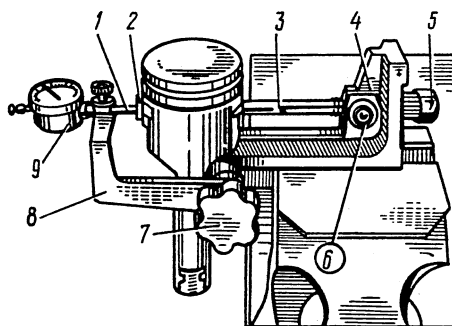

Fig.2-33. Assembled Piston-Pin-Connecting-Rod Group Installed on Tester A.95615 for Pin Pressing-Out Test:
- clamp tester base 4 (Fig. 2-33) in a vice and install the piston-pin-connecting rod assembly on it;